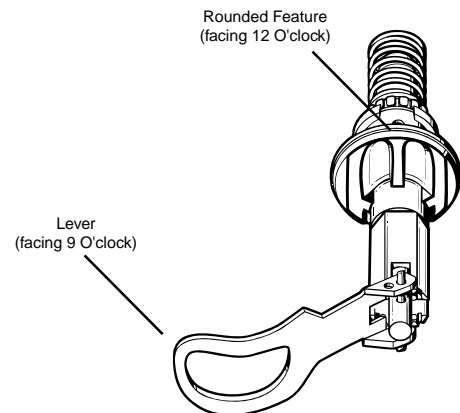
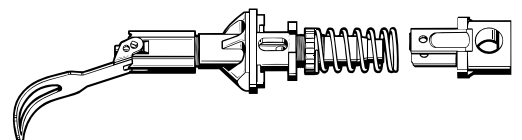

Fig. 11 - Lever Support Alignment
Fig. 12 - Control Valve Flange Alignment
5. While holding the control valve with its rounded index feature facing towards twelve o'clock, insert the rod of the lever assembly(24) into the lever support and partially through the sealing sleeve. Then, hold the lever support and control valve body stationary, and rotate the lever assembly until the end of the lever faces directly toward nine o'clock (see Fig. 11). Tamp the lever assembly inward so that the hinge pin seats inside the lever support, and lay the assembly horizontal without disturbing the alignment of these parts.
6. Fit the spring(34) over the piston end of the control valve body, so that it is seated evenly over the adjusting nut.
7. Mate the control valve flange(36) over the spring and onto the control valve body, with the arms mated through the keyed support of the body (see Fig. 12). Hold the body and the flange fully compressed between thumb and forefinger, and insert the pin(29) through the flange, lever rod, and the elliptical hole of the body. Relax the flange and body when the pin is centered between the arms of the flange.
8. Mate the cup of the balancing diaphragm(37) into the open end of the control valve flange, with the flat side facing in.